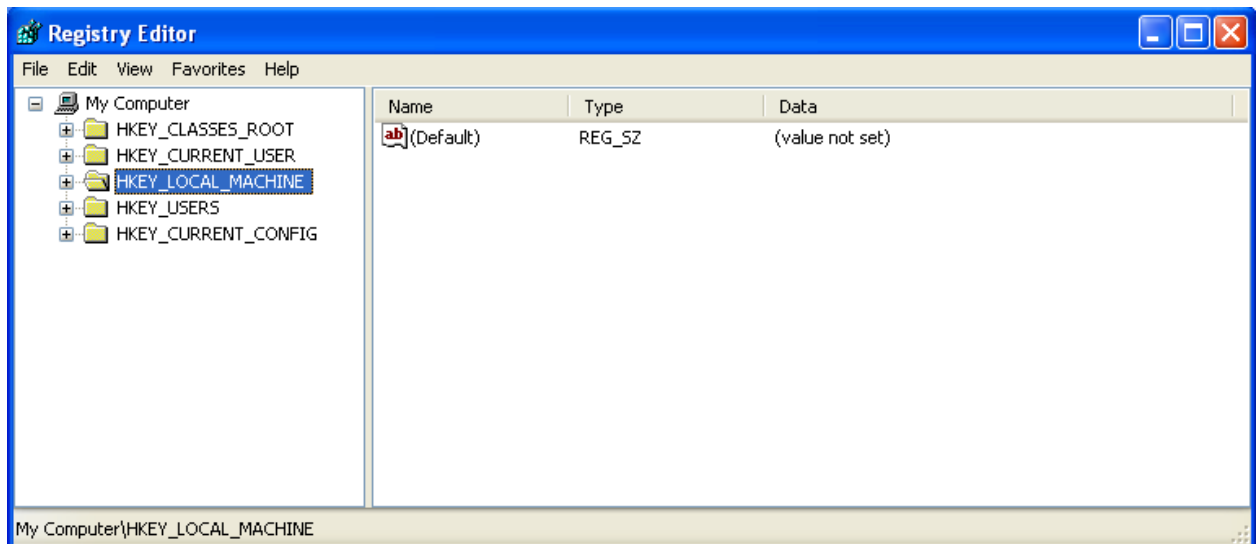

Fig. 9.3-2 Registry editor dialog window
4. Registry Editor will open in result (Fig. 9.3-2).